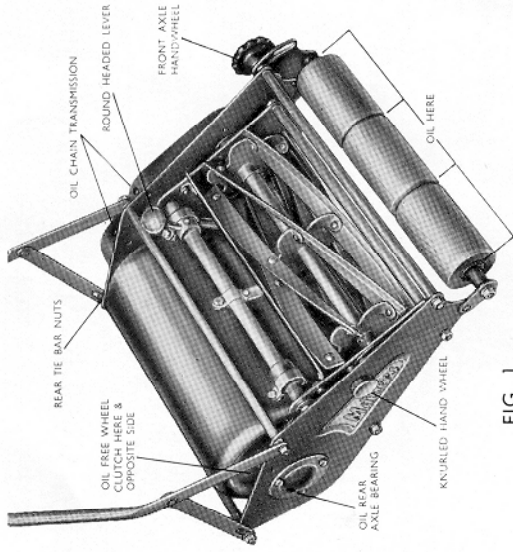

FIG. 1
- (a) The chain transmission through the two oil holes provided on top of the chain case cover. (First remove rubber oiling plugs.) See Fig. 1.
- (b) Oil round the centre rim of the freewheel clutch mounted on the rear axle shaft on each side of the drum rollers. See Fig. 1.
- (c) Oil rear axle bearing through the oil hole provided in the small cover. (First remove rubber plugs.) See Fig. 1.
- (d) Oil front rollers by applying oil at the space provided between each roller. To assist the feed of oil, tip the machine on each side when oiling. (See Fig. 1.)
Adjust the shear blade to the rotary cutter by moving the round headed adjusting lever in the direction towards the rear roller as far as it will go as permitted by the cutter setting stop; this will bring the bottom blade into a **LIGHT AUDIBLE CONTACT** with the rotary cutter which is the correct adjustment for cutting. (See Fig. 1.)
This adjustment is made by the front axle handwheel (see Fig. 1)—unscrew the handwheel a turn, adjustment can be made to any position on the traversed slot. The adjusting bracket should never be set too far back when dealing with a heavy crop, or when mowing the lawn at the early part of the season. Latterly, as the ground gets harder, and the growth more even, the adjustment may be set further back and the machine will cut to a very close degree and finish.
These adjust to a higher or lower position by slackening the rear tie bar retaining nuts, situated on the slot of the handlebar supporting strut (see Fig. 1) taking care to tighten the nuts securely after adjustment.
To clean the machine thoroughly, the cutter unit can easily be detached from the chassis by unscrewing the knurled handwheel seen on the right hand side frame. (See Fig. 1.)